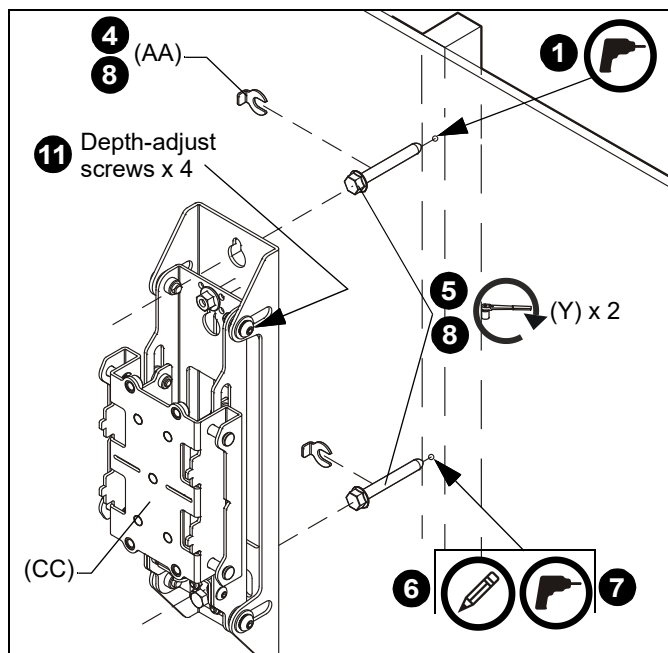

Figure 8
1. Drill one 7/32" (5.5mm) pilot hole in stud at upper mounting slot. (See Figure 8)
2. Partially install one 5/16 x 2-3/4" flanged lag bolt (Y) into pilot hole but do not tighten to wall.
3. Hang outside wall upright (CC) [or center wall upright (DD)] aligning upper mounting slot over lag bolt and level upright.
4. Place one slotted washer (AA) over flanged lag bolt. (See Figure 8)
5. Tighten lag bolt to secure wall upright (CC or DD) to wall at upper mounting slot. (See Figure 8)
6. Mark the attachment point for the lower mounting slot, making sure the attachment point is located on the stud. (See Figure 8)
7. Drill 7/32" (5.5mm) pilot hole at marking for lower mounting hole. (See Figure 8)
8. Use one 5/16 x 2-3/4" flanged lag bolt (Y) and one 5/16" slotted washer (AA) to attach each wall upright to the wall through the lower mounting hole. (See Figure 8)
10. Adjust depth of wall uprights, if necessary, so that the face of the wall uprights are all in the same plane across the width of wall upright installation: (See Figure 8)
12. Adjust depth of wall uprights, if necessary, so that the face of the wall uprights are all in the same plane across the width of wall upright installation: (See Figure 8)